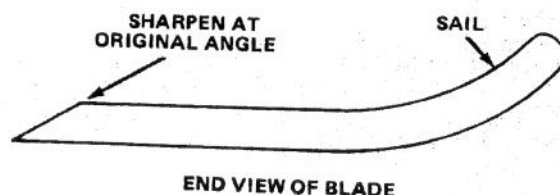

Figure 36
12. Using a file, sharpen cutting edge at both ends of the blade (Fig. 36).